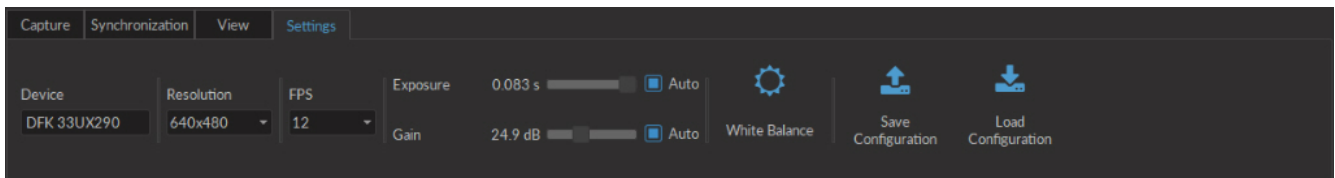

Figure 3.47: Camera Module - Settings Tab
4. The **Settings** tab (Fig. 3.47) contains the controls related to the camera functions.